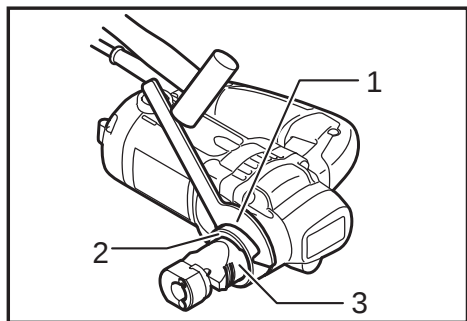

Fig.3
- **Fig.3:** 1. Wrench 2. Lock nut 3. Die holder